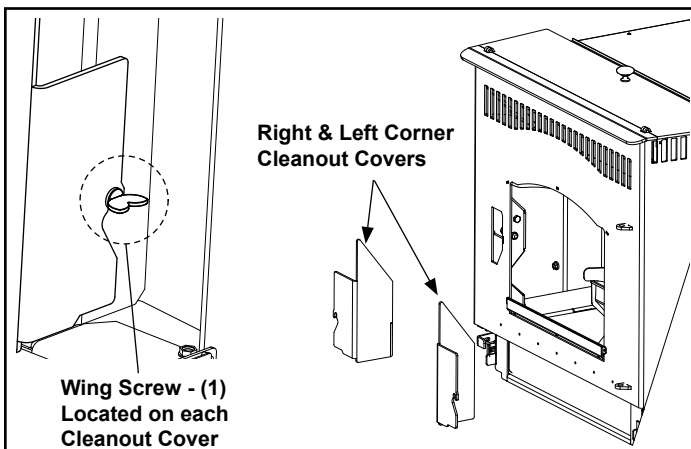

Figure 2.6
1. Remove the left and right corner cleanout covers by removing the wing-screws (one per). Figure 2.6.